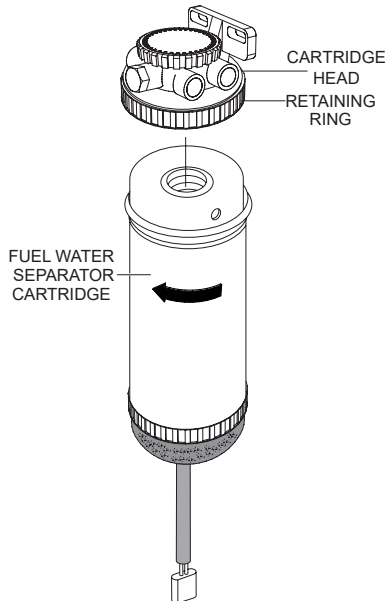

**Figure 64. Sediment Bowl**
1. Remove the sediment bowl from the fuel water separator cartridge as shown in Figure 64.